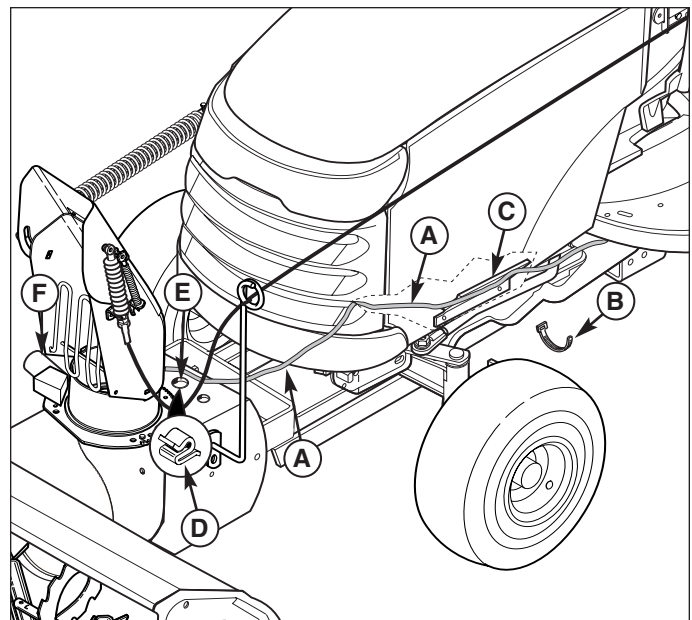

Figure 29. Rotator Motor Electrical Connection (Right Side Mount)
6. Raise the hood and route the wire harness (A, Figure 29) along the edge of the frame. Connect wire tie (B) loosely around the wire harness (A) and engine shield (C). Route the wire harness (A) through the lowest opening in grill as shown. Slide clip (D) onto hole (E). Place harness (A) into clip (D).